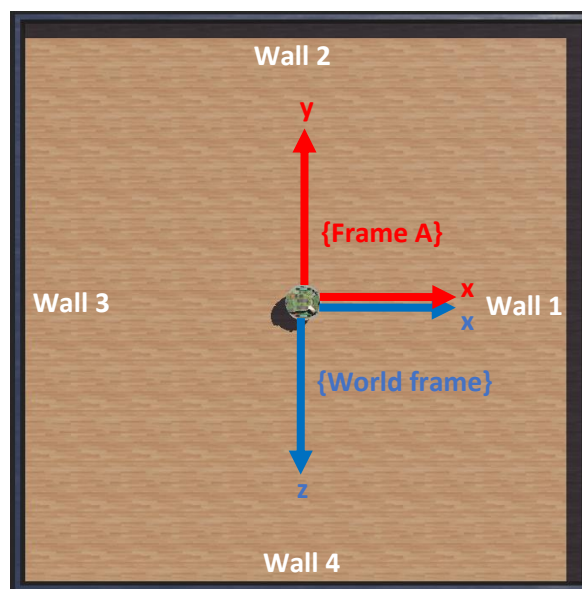

Figure 4. Webots world with frame definitions. The arena is 1m wide.
*Hint: Assume we measure the position of the robot directly. For instance, in the case where the wall 1 or 3 (see Figure 4) is detected by the distance sensors, we can deduce the position along the  $x$ -axis of the robot based on this detection (recall the arena has known dimensions). The same principle applies to the  $y$ -axis. You will implement this measurement method in question 9.7.*
Before we can proceed with the implementation of the update step of the filter, we need to define how the robot can re-localize based on its distance measurements. We know that the arena is exactly 1 m wide and that the origin is at the center of the arena. This means each wall is placed at either  $\pm 0.5$ m from the center along the  $x$ - or  $y$ -axis respectively (c.f. Figure 4 for an illustration).